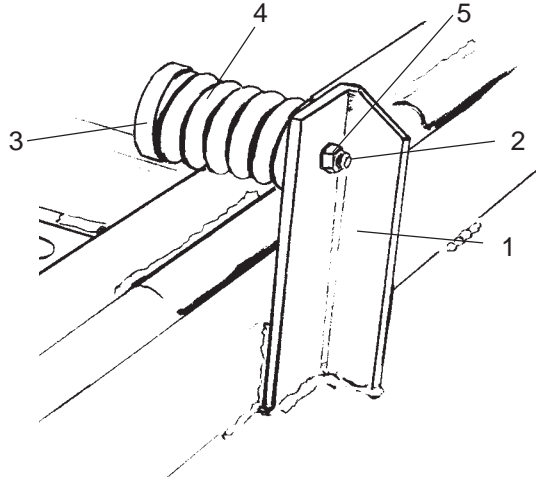

FIGURE 11. Spring Stop Attachment
The Spring Stop is assembled to the stop bracket (1) with the 1/2" x 5 1/2" capscrew (2) inserted thru the stop (3), spring (4) and locknut (5). **FIGURE 11.**